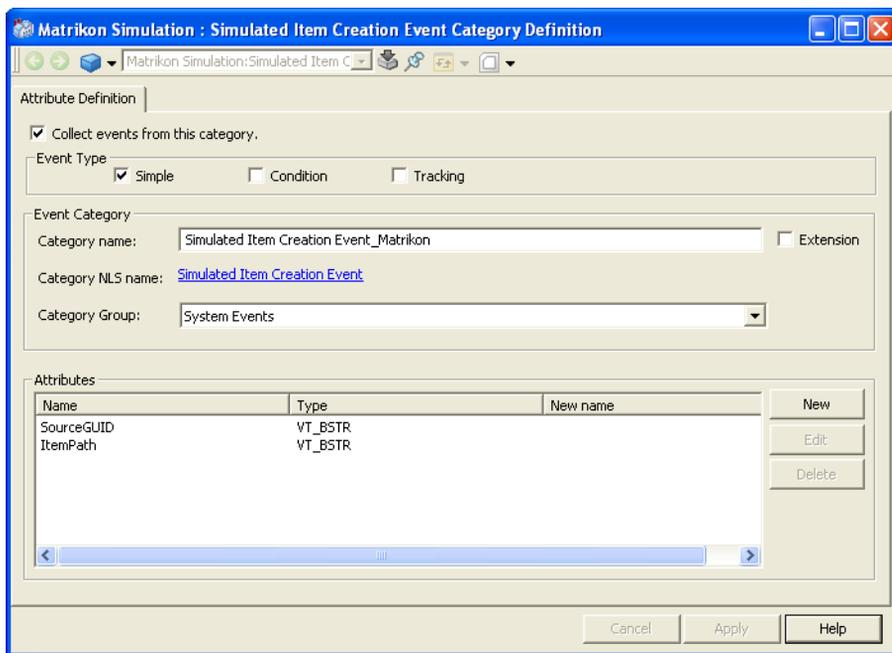

Figure 343. Attribute Definition Tab
1. Specify a category group mapping, see Figure 343.